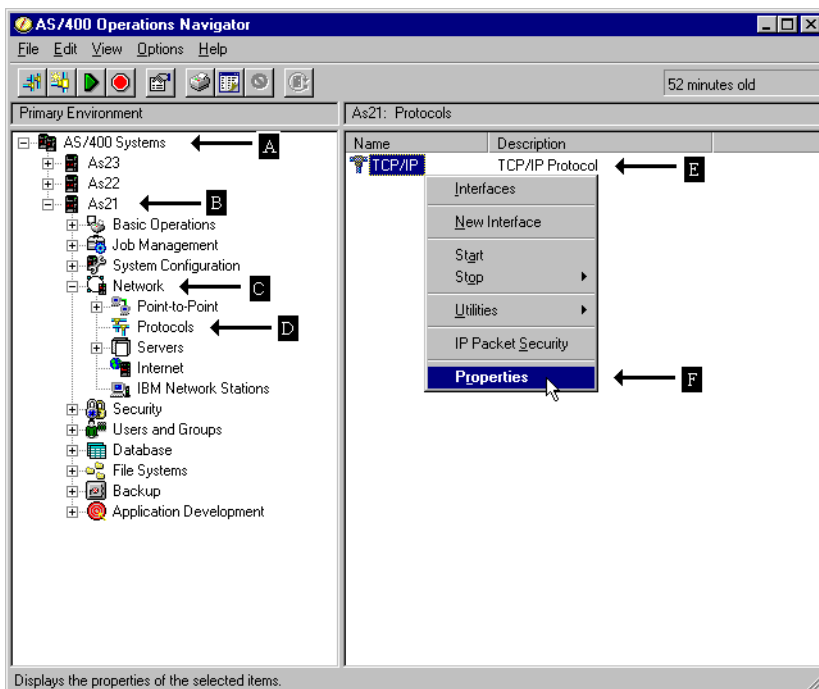

Figure 468. Context menu: Properties
- a. Start Operations Navigator by clicking **Start ->Programs->IBM Client Access->AS/400 Operations Navigator**. The AS/400 Operations Navigator window appears (Figure 468).
- b. Double-click the AS/400 Systems icon (A). A list of all the AS/400 systems should appear that can be configured.
- c. Double-click the AS/400 system you want to configure (B).
- d. Double-click **Networks** (C).
- e. Double-click **Protocols** (D).
- f. Right-click **TCP/IP** to open a context menu (E).
2. Select **Properties** from the context menu (F). Figure 468 shows the context menu - Properties option.